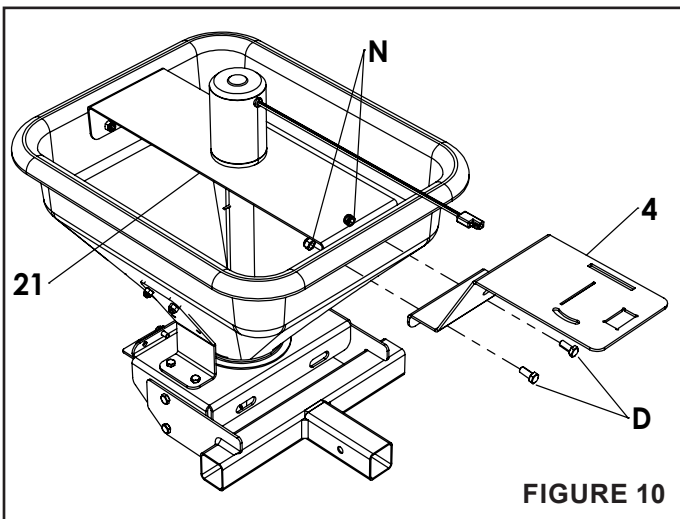

FIGURE 10
STEP 10: (SEE FIGURE 10)
- Place the bracket control assembly (4) onto the outside of the hopper (on the hitch side (6)). Orientate as shown.
- Install two hex bolt (D) through (4), (18) and (21).
- Secure with two hex nuts (N).